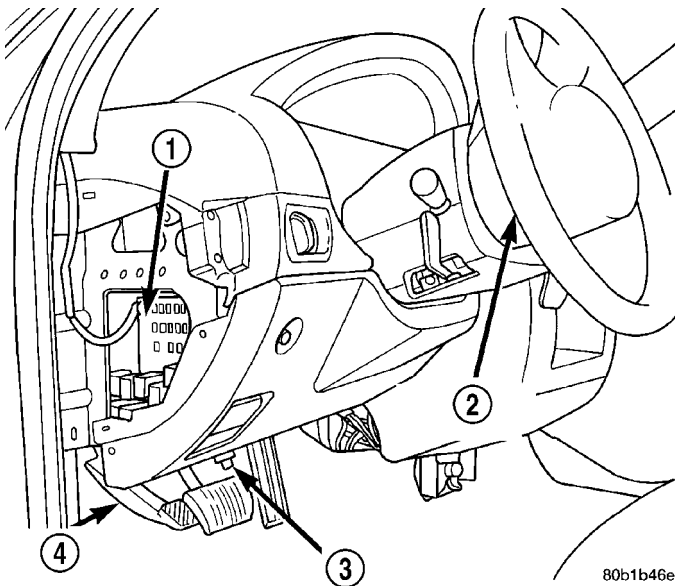

Fig. 1 Data Link Connector Location
- (1) Visually inspect the ABS for damaged or disconnected components and connectors.
- (2) Verify the brake lamps are operational. If they are not, repair them prior to continuing.
- (3) Connect the DRBIII® scan tool to the Data Link Connector located under the instrument panel to the left of the steering column (Fig. 1). If the DRBIII® does not power-up, check the power and ground supplies to the connector.
- (4) Turn the ignition key to the ON position. Select ANTILOCK BRAKES.
- (5) Read and record any Diagnostic Trouble Codes (DTCs). If any DTCs are present, refer to the appropriate chassis diagnostic information.